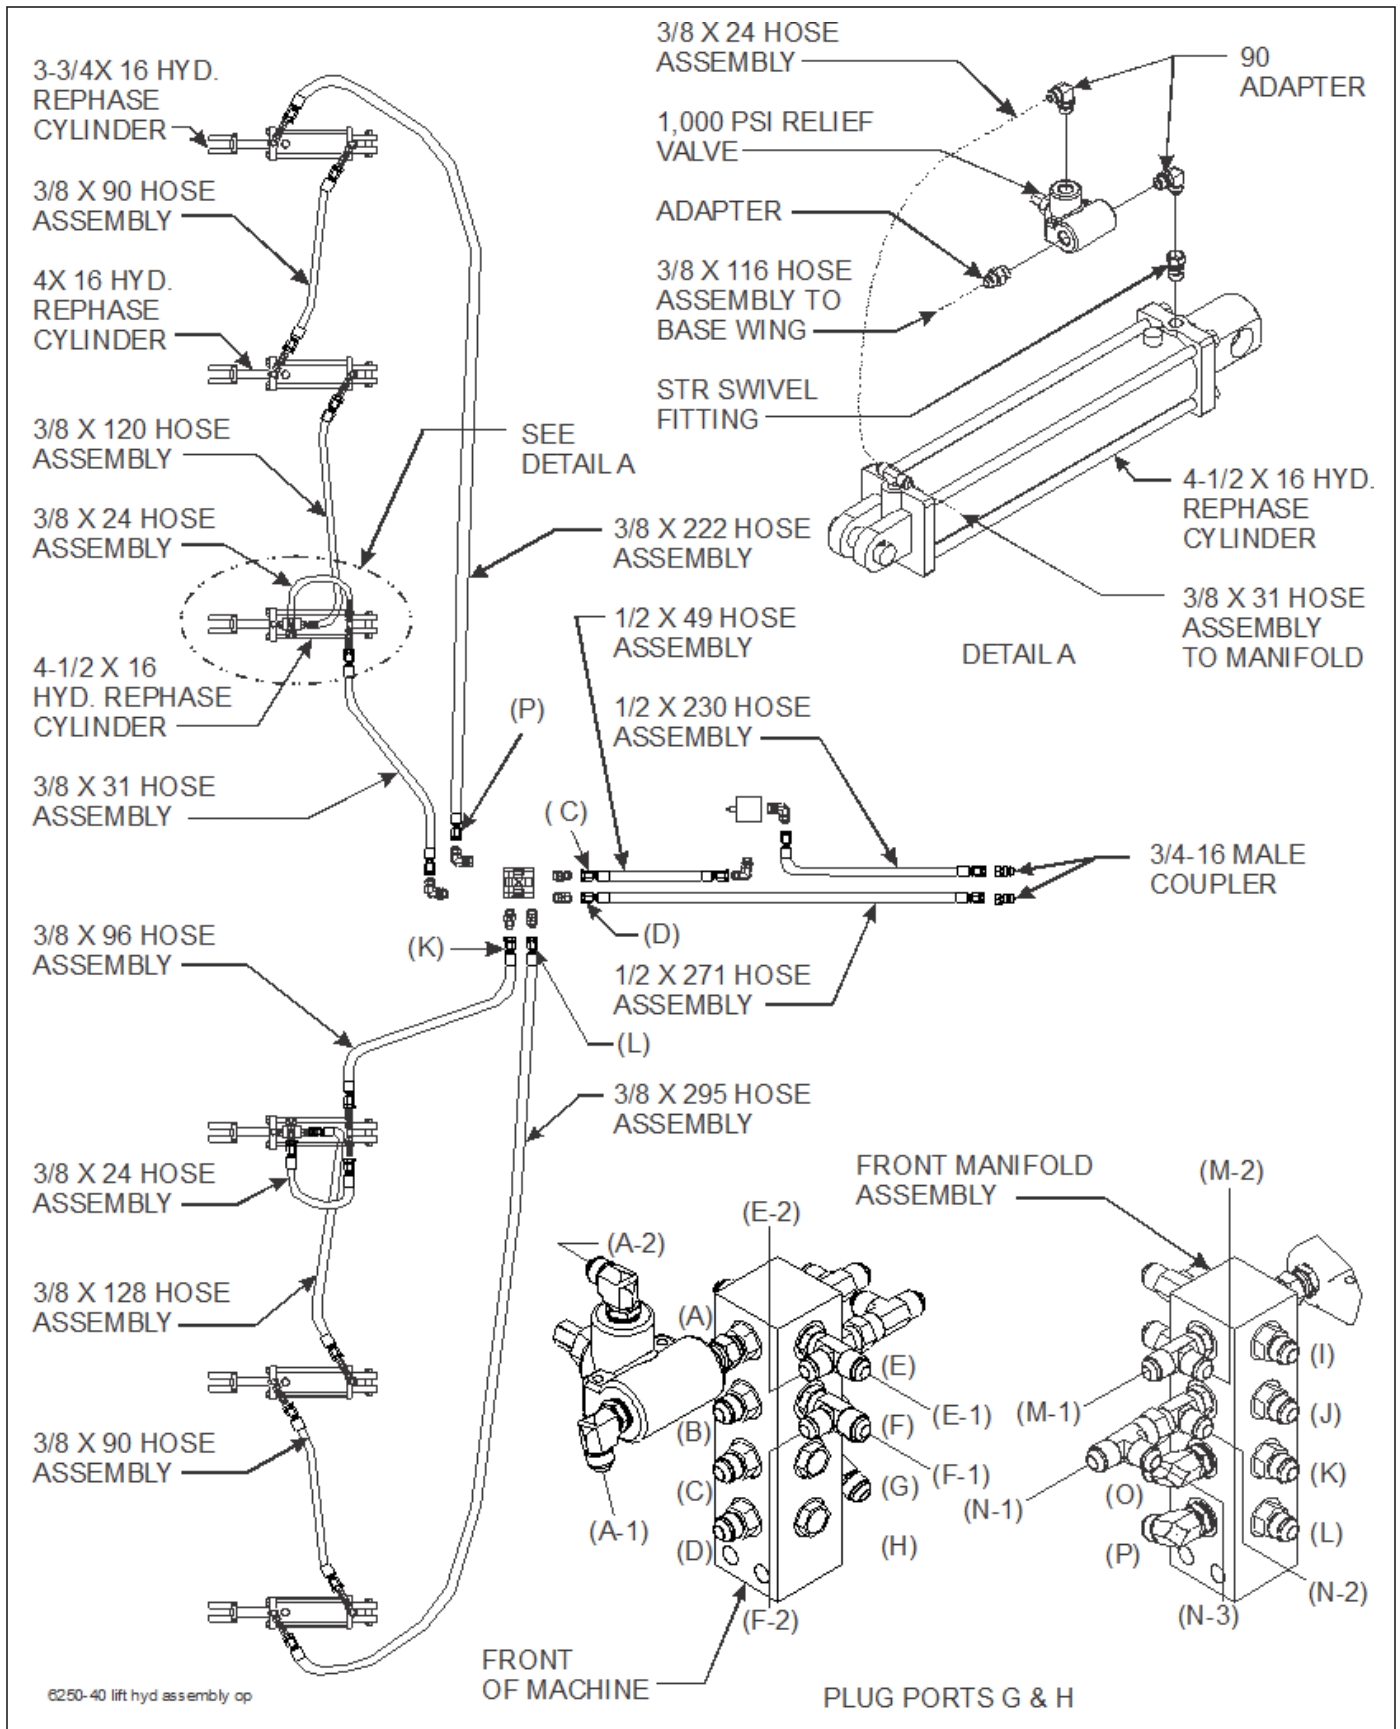

Figure 3-11: Lift Hydraulic Installation (40' Model)
See **Figures 3-11 through 3-16** for hydraulic cylinder fittings (factory installed and those installed during setup).
Refer to **Figures 3-11- 3-12** for lift and fold hydraulic diagrams for 6250-40' model.
8. Attach the 8 port manifold to the rear manifold bracket on the implement using 1/2-13 x 3-1/2 hex head cap screws and hex lock nuts. Install lift system hoses per **Figures 3-11, 3-13, and 3-15**. Wrap lift system hoses with blue hose wrap.